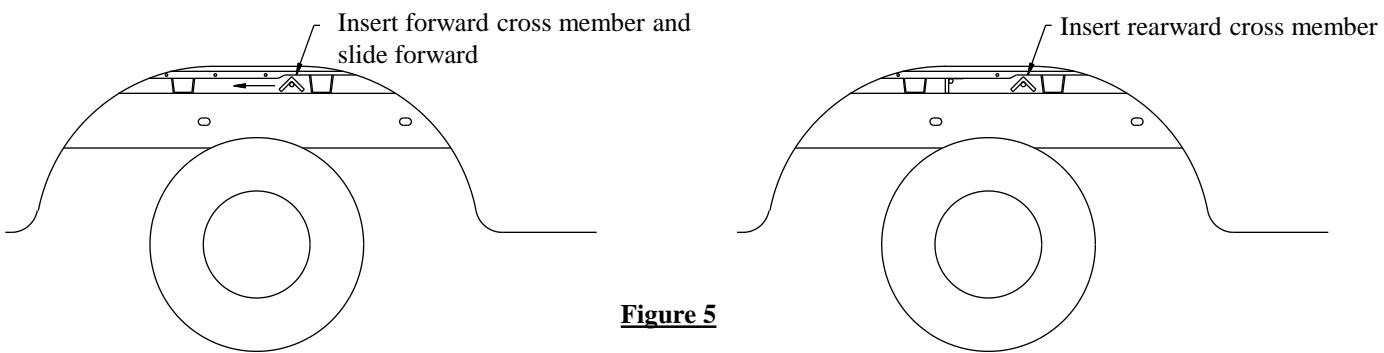

Figure 5
3. Slide the forward and rearward cross members between the frame rail and the bed of the vehicle as shown in Figure 5. The forward cross member has (2) additional holes centered between the long slots.